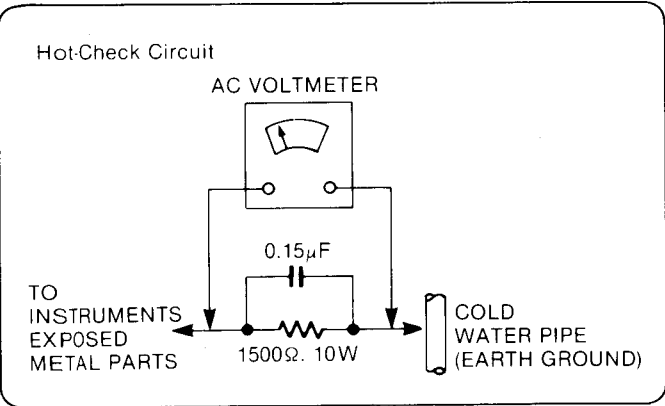

Figure 1
## LEAKAGE CURRENT HOT CHECK (See figure 1.)
2. Connect a 1.5k $\Omega$ , 10 watts resistor, in parallel with a 0.15 $\mu$ F capacitor, between each exposed metallic part on the set and a good earth ground such as a water pipe, as shown in figure 1.